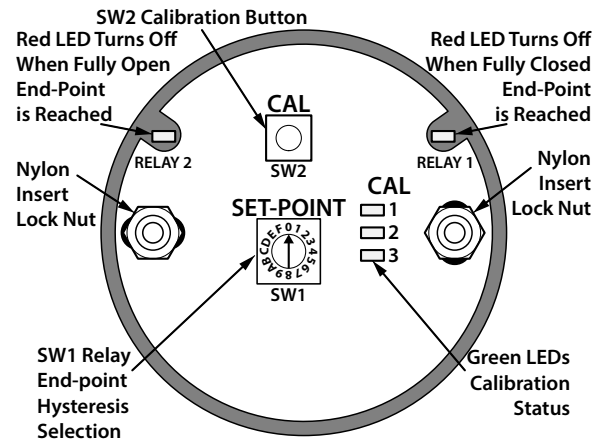

Figure 3: User Interface Board
1) Remove (twist CCW) the back cover from the SG1000RA's red enclosure, to reveal the User Interface Board (see Figure 3).
This provides access to the SG1000RA's User Interface Board, namely the calibration switch SW2 (the push-button switch), and the relay end-point/hysteresis selection 16-position rotary switch (SW1). See Figure 3 for locations of these switches.